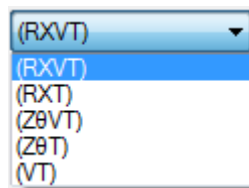

Fig 3-10. Set measurement function
- (1) Click the FUNC combo box. (Fig 3-10)
- (2) Select a measurement function from the drop-down list.